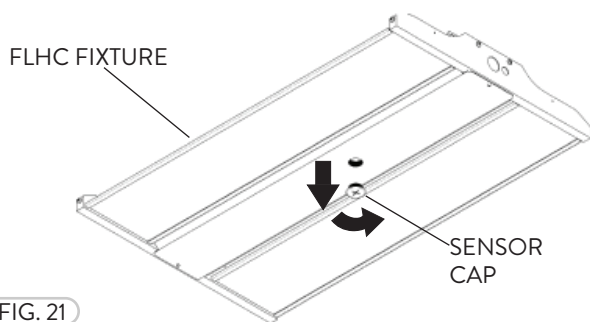
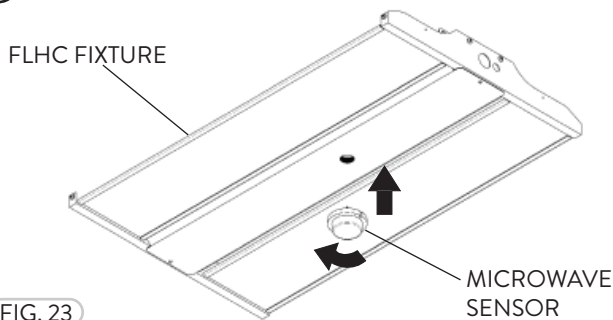
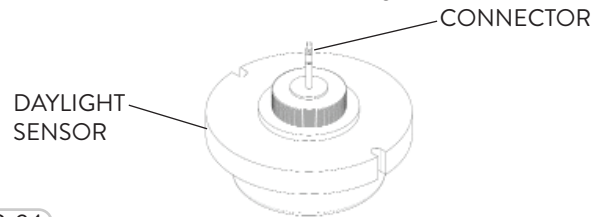

FIG. 21
FIG. 23
FIG. 24
- 1 The FLHC Fixtures have an Optional Microwave Occupancy Control sensor that can be added. Unscrew and remove the plastic Sensor Cap from the bottom of the fixture (Fig. 21).
- 3 Carefully screw in the Sensor into the FLHC fixture (Fig. 23).
- 1 The FLHC Fixtures have an Optional Occupancy Daylight Harvesting Control Sensor that can be added. Unscrew and remove the plastic Sensor Cap from the fixture (Refer to Fig. 21). The Occupancy Daylight Harvesting Control Sensor has a connector that inserts into the bottom of the FLHC fixture (Fig. 24). Carefully screw in the Sensor into the FLHC fixture (Refer to Fig. 23).